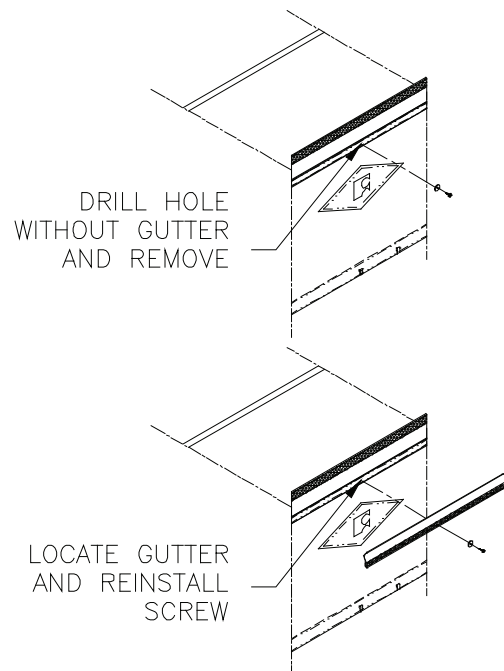

FIGURE 1
1. Before installing any of the screws that attach the curtain face, install only the center attachment screw for the curtain face. **(Note: Make sure the screw is centered on the bar or the gutter may get mounted to high.)** Do this without the gutter strip. This screw locates and temporarily holds the gutter strip in place during it's installation. (See Figure 1)
2. Now remove this screw. Locate the gutter strip center hole over the newly made hole from the tek-screw and screw in place. (See Figure 1) Before completely tightening the screw, rotate gutter strip into approximate parallel position to canopy front bar bottom edge. Then tighten the screw so it can hold gutter up, but take care in not stripping the screw out.